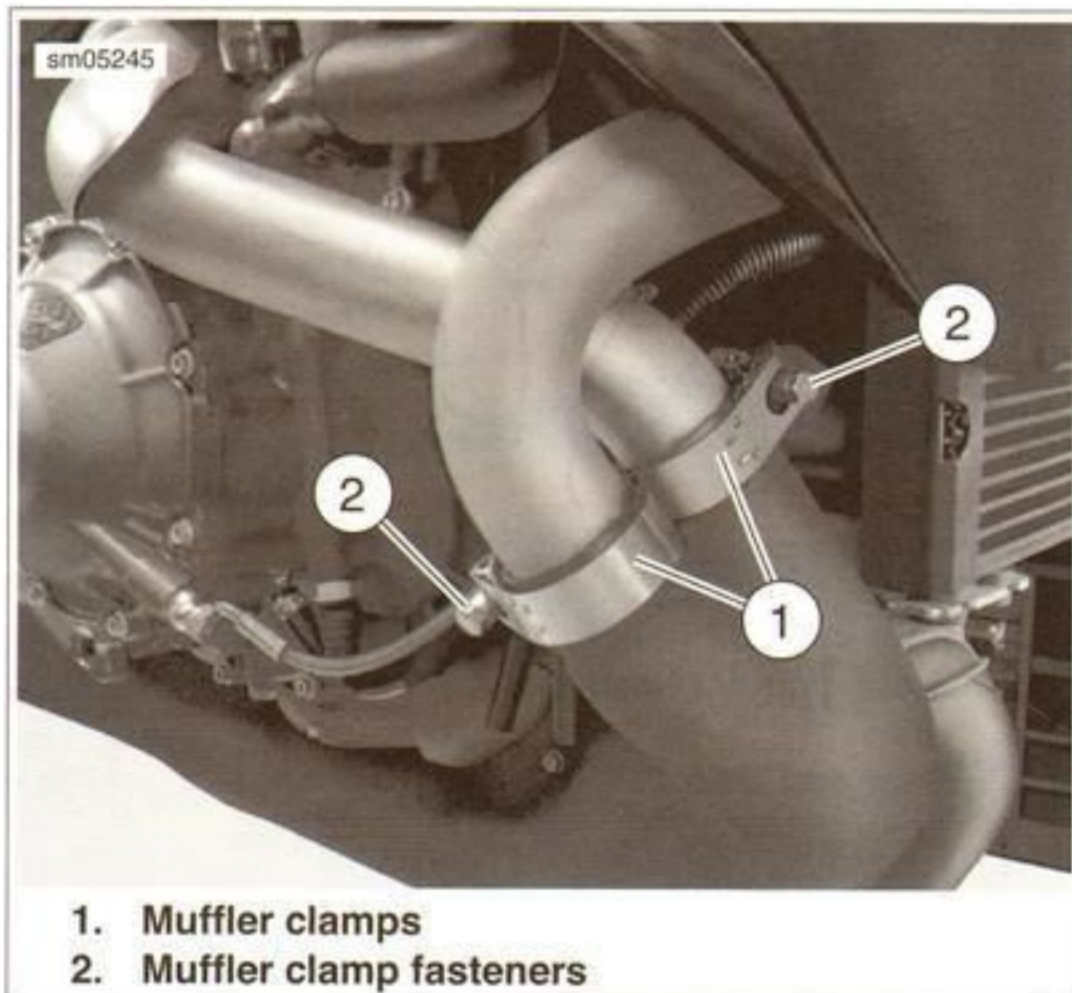

Figure 4-45. Muffler Clamps
2. See Figure 4-45. Loosen the muffler clamp fasteners on the headers.